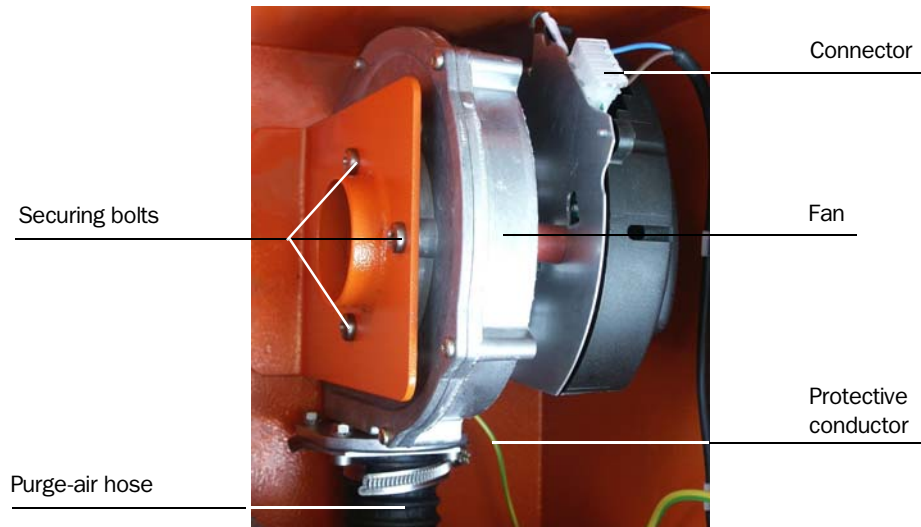

Fig. 7.4: Fan in the connection unit with an integrated purge-air supply
- ▶ Remove the fan connector and protective conductor (see **Fig. 7.4**)